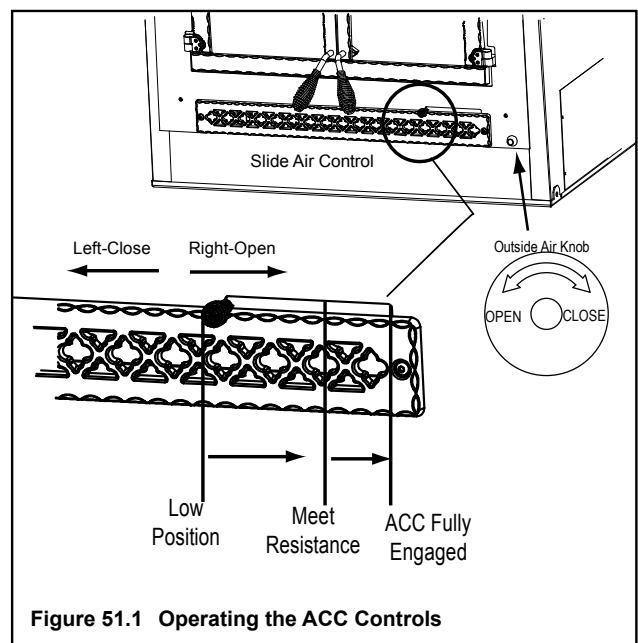

Figure 51.1 Operating the ACC Controls
2. Regulate burn rate (heat output) by using the Slide Air Control. See Figure 51.1 on page 51.